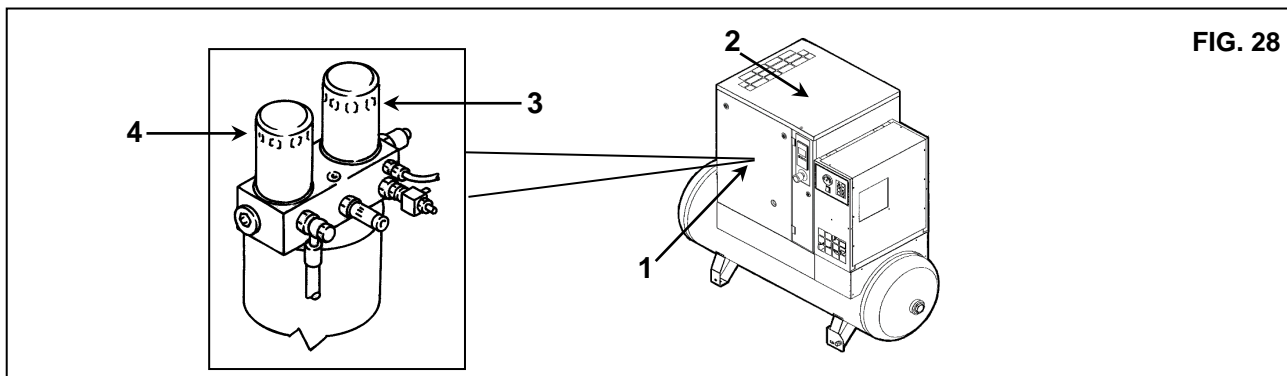

FIG. 28
- Open the front panel Ref. 1 Fig. 28 with the special key.
- Remove the fixed protection device (machine cover) Ref. 2 Fig. 28.
- Remove the oil separation filter Ref. 3 and oil filter Ref. 4 Fig. 28.
- Close the fixed protection (machine cover) Ref. 2 Fig. 28 device again, using the appropriate safety screws.
- Close the panel Ref. 1 Fig. 28.